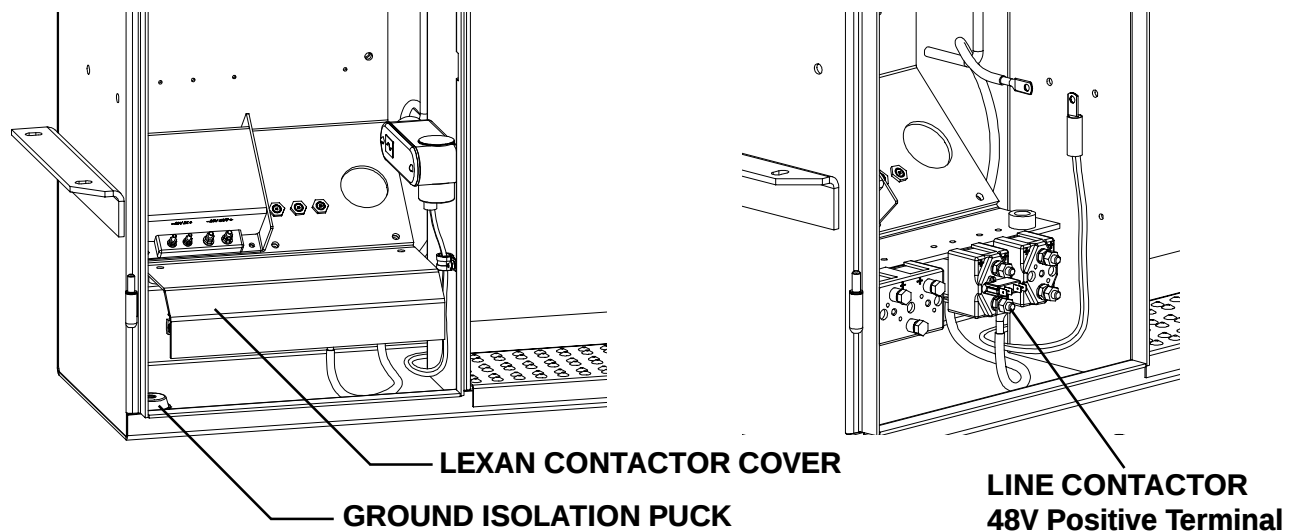

Figure 1-2
Step 4. Undo the two quarter-turn fasteners and remove the Lexan Contactor Cover (**Refer to Figure 1-2**).
Step 5. Locate the two Black 10 Ga. Battery Charger wires connected to the Ground Isolation Puck and remove them. (**Refer to Figure 1-2**).
Step 6. Locate the two Red 10 Ga. Battery Charger wires connected to the Line Contactor 48V Positive Terminal and remove them (**Refer to Figure 1-2**).